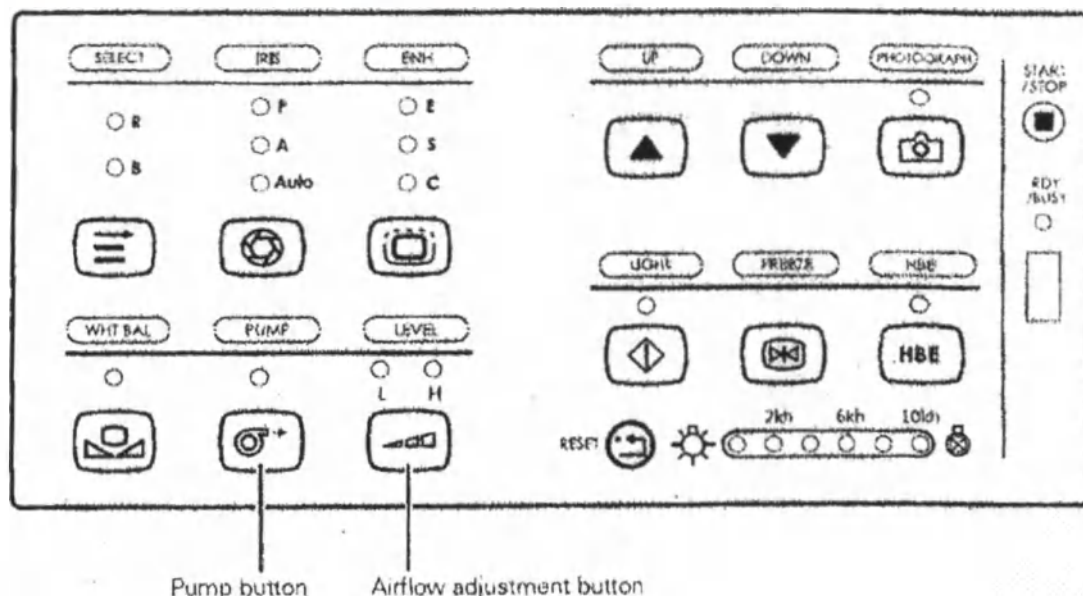

Figure 8.
1. Press the pump button to TURN on the pump (see Figure 8). The PUMP lights up and the air starts. When you press the pump button again, the pump shuts down.
2. Press the airflow adjustment button to adjust the airflow level (see Figure 8). When you press the airflow adjustment button, the airflow level switches between "H" (high) and "L" (low). The H and L indicators reflect the current status of the airflow.